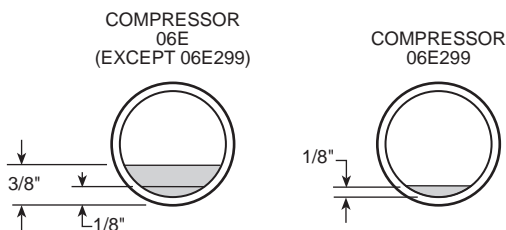

Fig. 37 — Operating Oil Levels (Sight Glass)
8. Oil should be visible in the compressor sight glasses. See Fig. 37. An acceptable oil level in the compressor is from $\frac{3}{8}$ to $\frac{1}{8}$ of sight glass (06E-299 compressors are $\frac{1}{8}$ of sight glass). Adjust the oil level as required. No oil should be removed unless the crankcase heater has been energized for at least 24 hours. Oil Charge section on page 44 for Carrier-approved oils.
Compressor Oil — Check that compressor oil is visible in the sight glass of the compressor. All units are factory charged with oil. See Table 3. Observe oil level closely at start-up. If oil level is below the sight glass and cannot be seen, add oil until the level is approximately $\frac{3}{8}$ to $\frac{1}{8}$ of sight glass (06E-299 compressors are $\frac{1}{8}$ of sight glass). See Fig. 37. See Oil Charge section on page 44 for information on adding or removing oil.